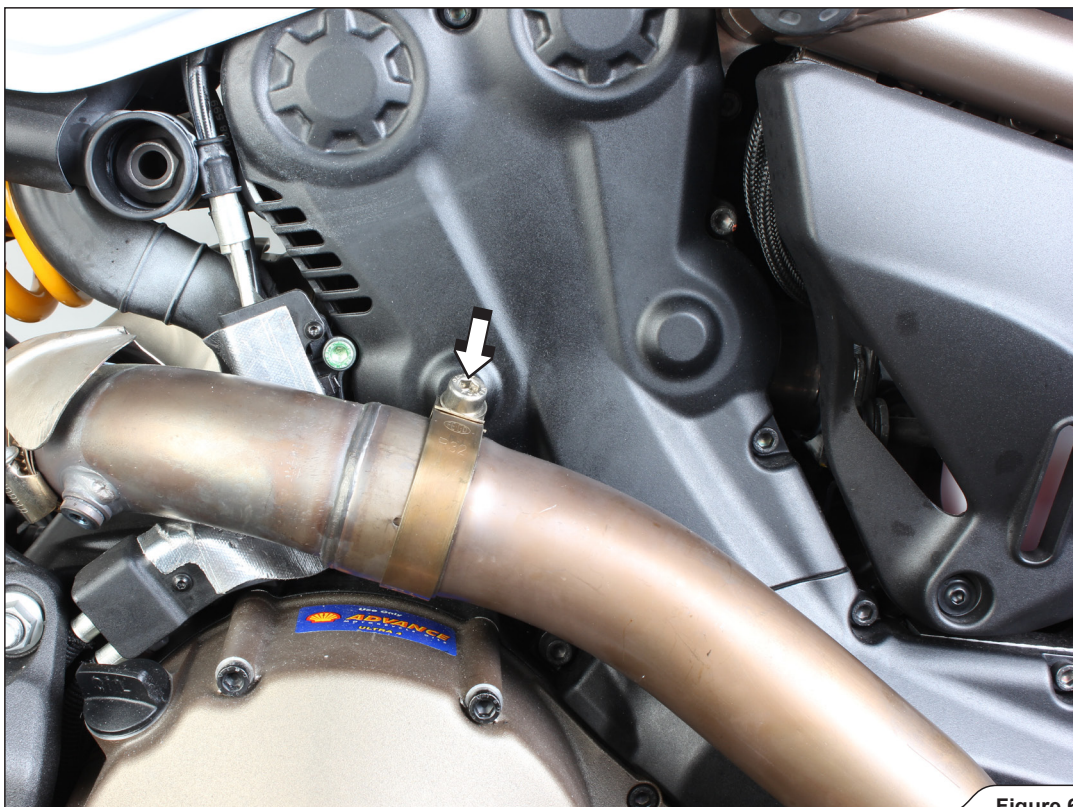

Figure 6
8. Loosen the marked clamp and carefully remove the rear header (**Figure 6**).